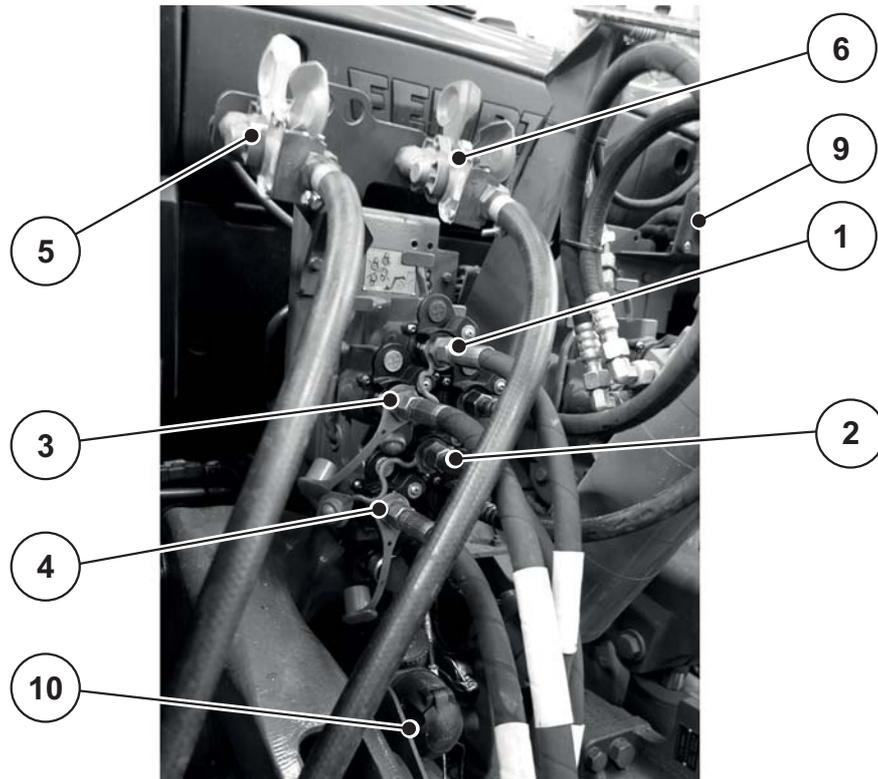

Figure 6.6: Connection order for large area spreader AXENT
- Observe the connection order: See Figure 6.6.